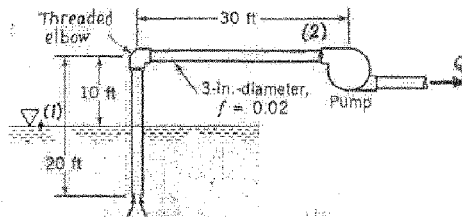

FIGURE P8.93
8.93 Water at 40 °F is pumped from a lake as shown in Fig. P8.93. What is the maximum flowrate possible without cavitation occurring?